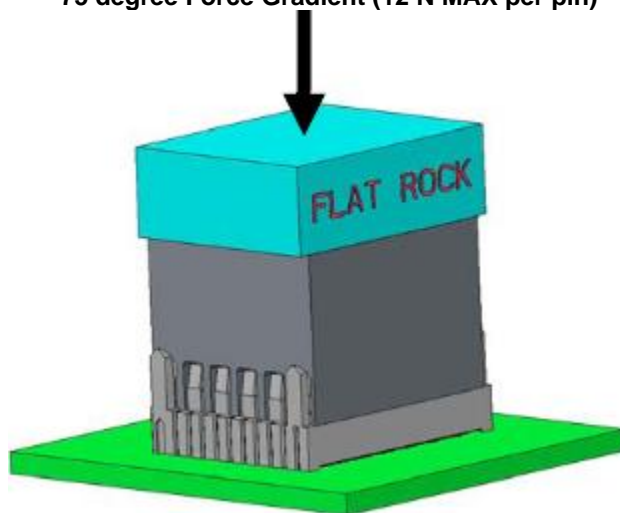

Figure 27: Flat Rock Tool Used to Seat Vertical Connector
- Using a flat rock surface and an insertion press, apply force to the top of the insert tool as shown in Figure 27.